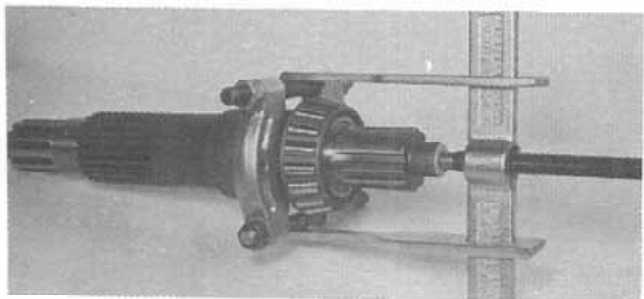

Figure 14:
11. Use a bearing separator to retain the bearing while the output shaft is being pressed out (Fig. 14). Use the same method for the remaining bearing on the center shaft.